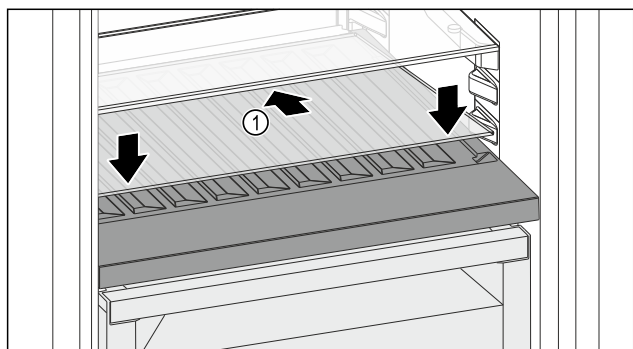

Fig. 223
- Place the glass shelf Fig. 223 (1) at an angle, sloping it downwards and backwards.
- Lower the glass shelf Fig. 223 (1) at the front.